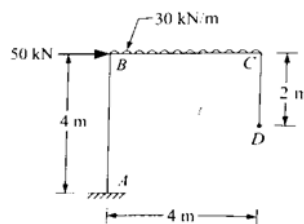

Figure 4
- (b) Determine the vertical and horizontal displacement at the free end D in the frame shown in the Figure 4. Take  $EI = 12 \times 10^3 \text{ N mm}^2$ . Use Castigliano's theorem. [7M]